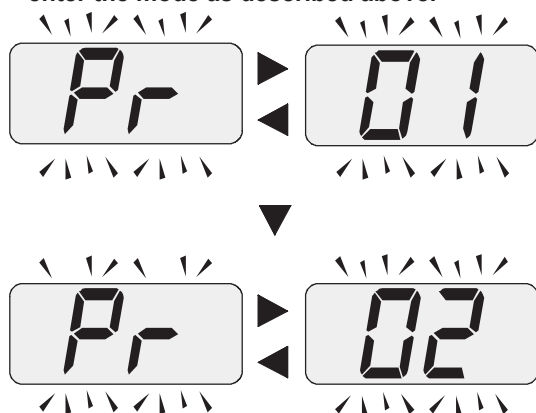

Figure 6.7
- 3 The display shows Figure 6.7.